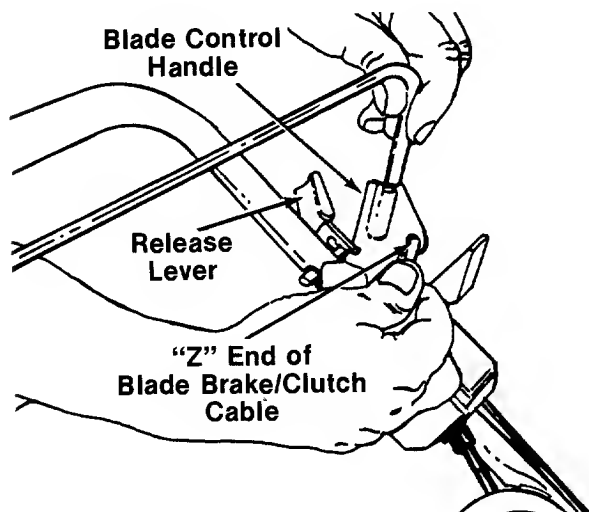

FIGURE 5.
7. Hook the "Z" end of the blade brake/clutch cable into the hole in the blade brake/clutch control handle. See figure 5. If additional slack is needed in order to hook the cable into the handle, proceed as follows.
- b. Push release lever (see figure 5), then squeeze blade control handle against upper handle.